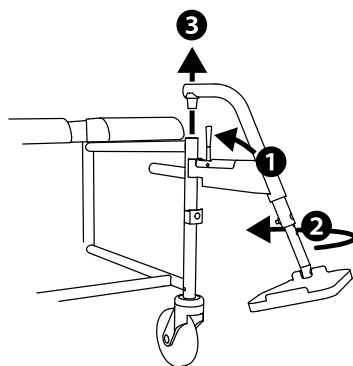
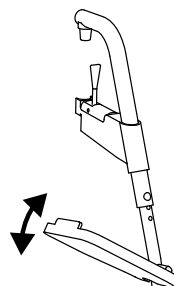

Fig.14
Fig.15
3. To swivel the leg rests, operate the lever on the frame pipe (1, Fig. 14) and swivel the leg rest simultaneously towards the outside (2, Fig. 14).
4. The leg rest can then be removed in an upwards direction (3, Fig. 14).
2. To make it easier to sit down and get back up, the foot plates can be folded upwards (Fig. 15). Alternatively, the entire leg rest can also be swiveld outwards (Fig. 14).